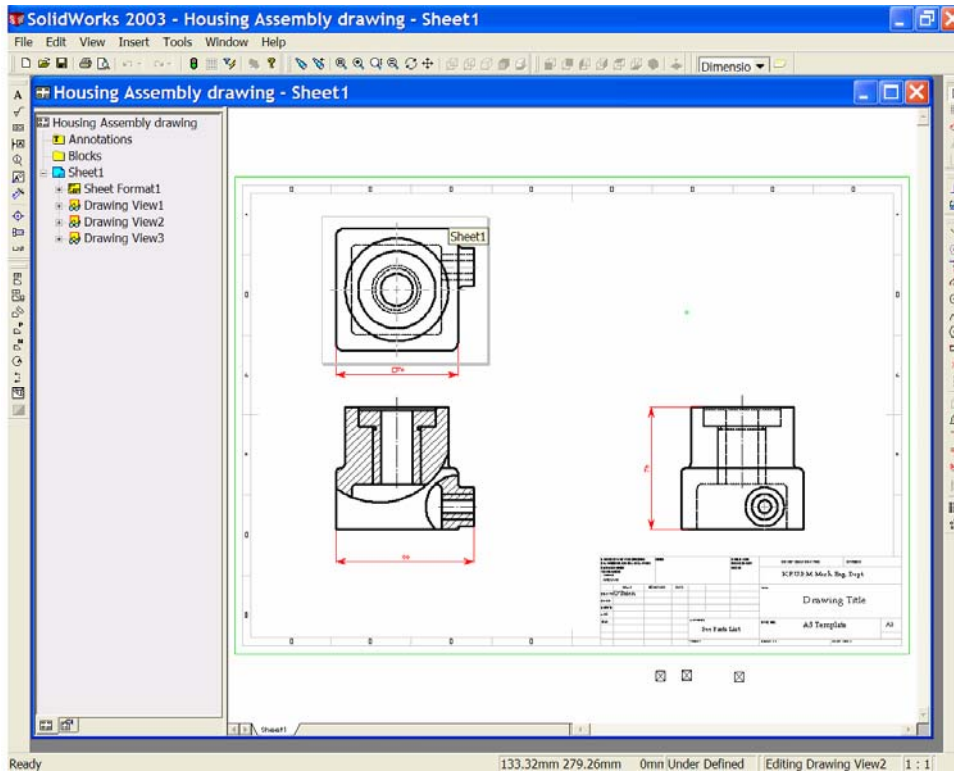

Figure 1
4. Add the Broken out sections indicated in Figure 1.